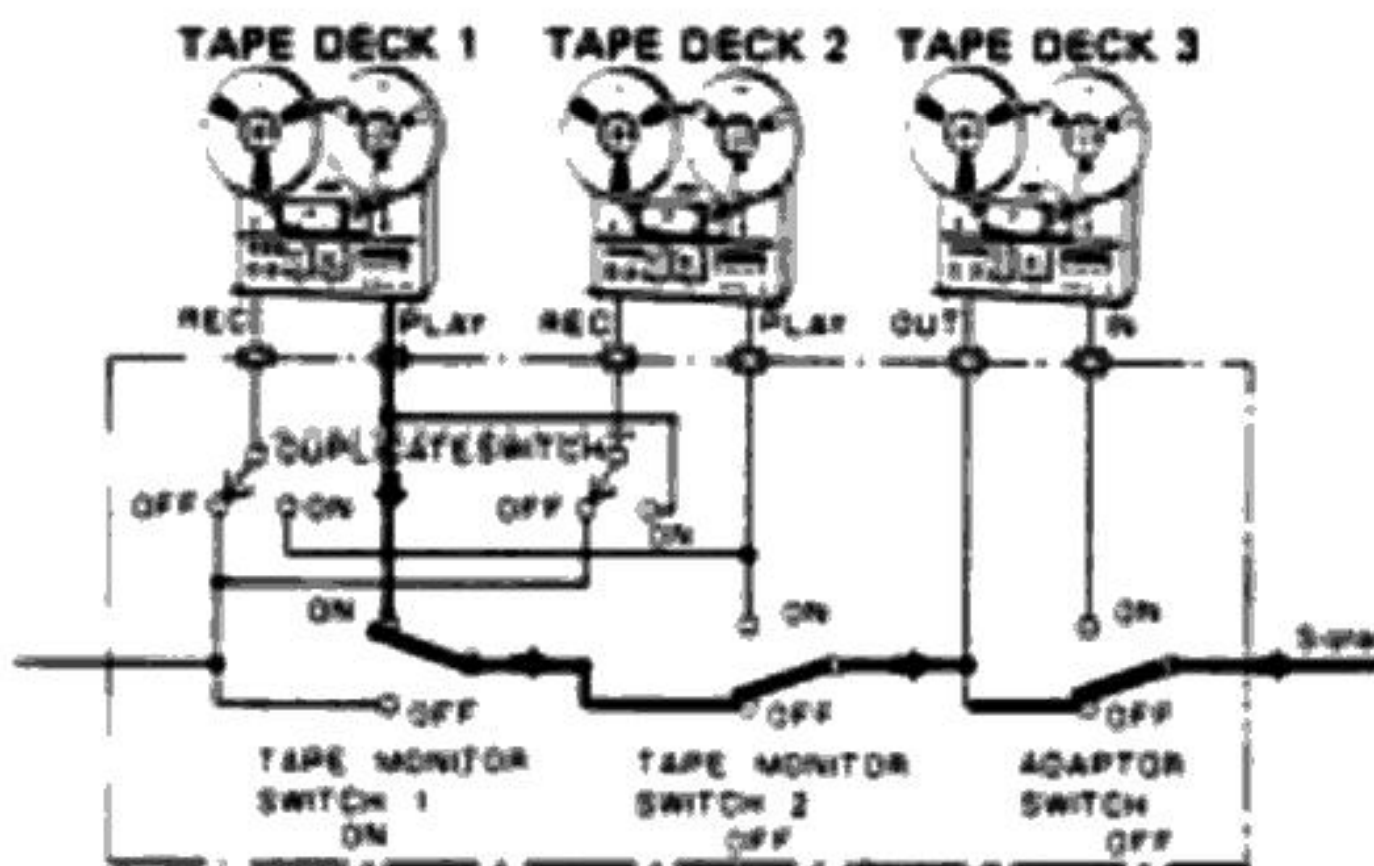

Fig. 21
1. According to the TAPE PLAY (1, 2) or ADAPTOR IN jacks to which the tape deck is connected, either the TAPE MONITOR 1 or 2 switches or the ADAPTOR switch should be set to ON (see Fig. 21).